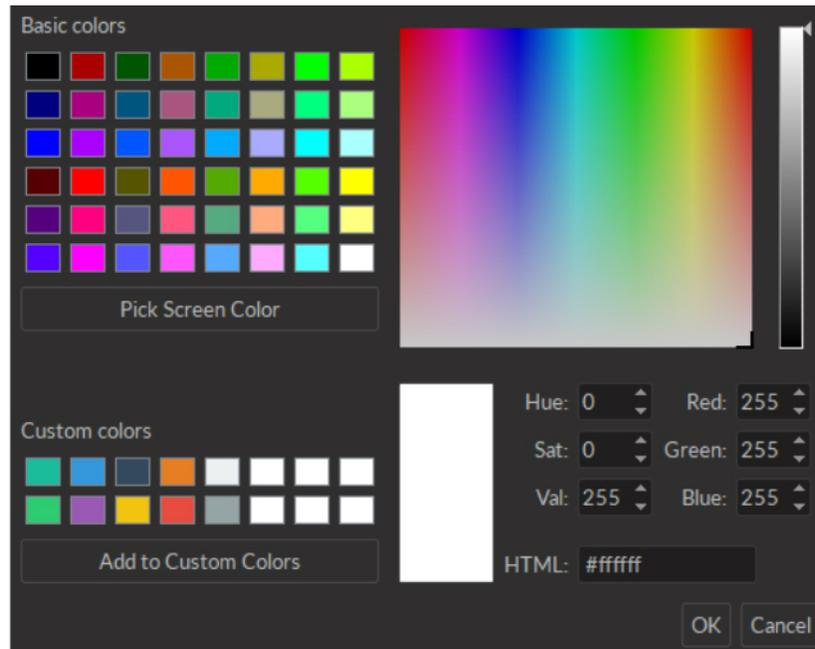

Figure 3.26: Select Color Window
- The **Trace Color** button (...) opens the **Color Select** window (Fig. 3.26), which allows the selection of a trace color from a wide palette. The **Pick screen color** in this window allows the selection of any color displayed on the computer screen.